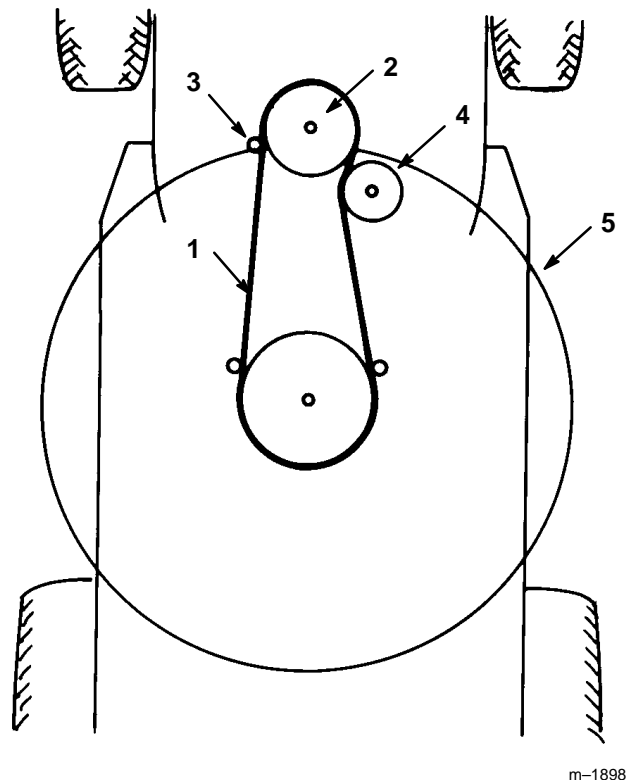

Figure 40
10. Remove the mower belt from the lower engine pulley (Fig. 40). If you are careful, you can flex the belt guide(s) just far enough away from the pulley to remove the belt. If it is too difficult to remove the belt, loosen the bolts and nuts securing the belt guides.
4. Install mower belt onto the lower engine pulley (Fig. 40). If you are careful, you can flex the belt guide(s) just far enough away from the pulley to install the belt. If it is too difficult to install the belt, loosen the bolts and nuts securing the belt guides.